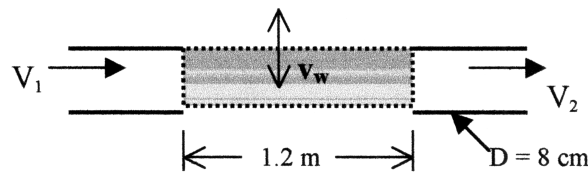

Fig. P3.10
3.10 Water flowing through an 8-cm-diameter pipe enters a porous section, as in Fig. P3.10, which allows a uniform radial velocity v_w through the wall surfaces for a distance of 1.2 m. If the entrance average velocity V_1 is 12 m/s, find the exit velocity V_2 if (a) $v_w = 15$ cm/s out of the pipe walls; (b) $v_w = 10$ cm/s into the pipe. (c) What value of v_w will make $V_2 = 9$ m/s?